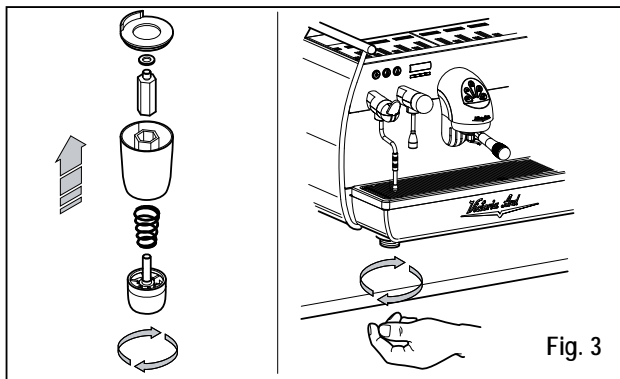

Fig. 3
- assemble its supporting feet by inserting the insert into the cylindrical unit (see Fig. 3);
- twist the rubber foot into the screw thread inside the unit (see Fig. 3);